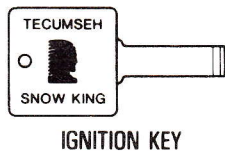
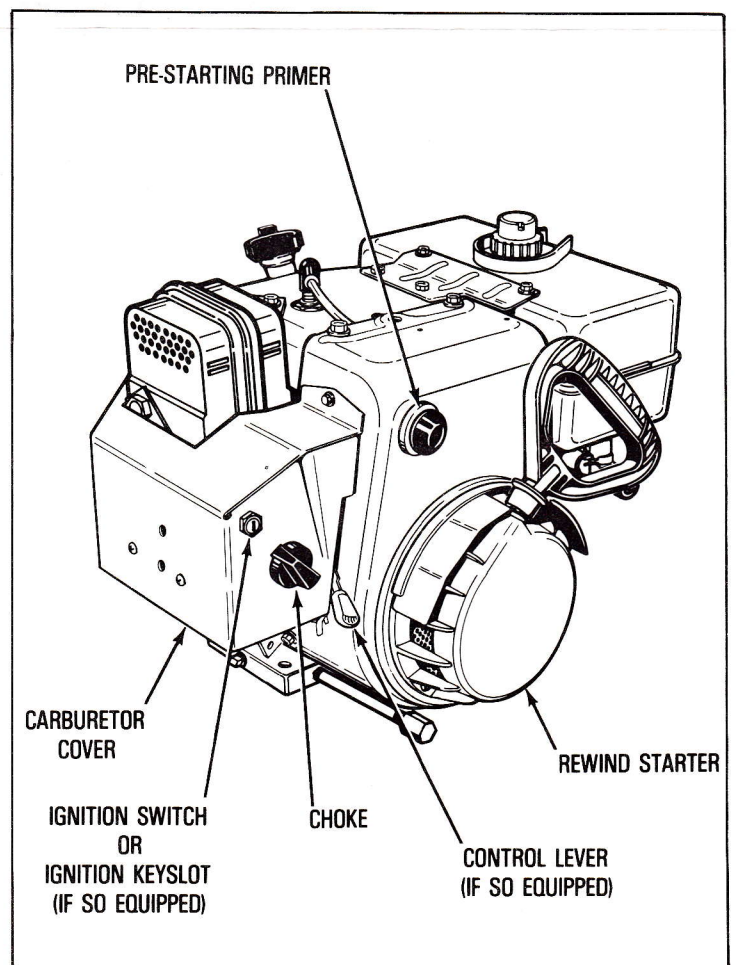

Figure 2
Figure 5
D. Be sure IGNITION KEY (if so equipped - see Figure 2) is inserted into IGNITION KEY SLOT in CARBURETOR COVER (see Figure 5). **DO NOT TURN IGNITION KEY.**
NOTE: If engine is used for anything except snow removal, the CARBURETOR COVER (see Figure 5) must be removed, and an approved air cleaner installed. See equipment manufacturer's instructions or your nearest Sears Service Center for details.
1. Move Remote Throttle Control on equipment (see equipment manufacturer's instructions) or CONTROL LEVER (see Figure 5) on engine to "Fast" or "Start" position.
2. Move CHOKE (see Figure 5) on engine to "Full".
3. Push PRE-STARTING PRIMER (see Figure 5) two (2) or three (3) times.
2. Move CHOKE (see Figure 5) on engine to "Off".
3. Push PRE-STARTING PRIMER (see Figure 5) once only.
- B. Move CONTROL LEVER or IGNITION SWITCH (if so equipped - see Figure 5) to STOP or OFF.
- C. Remove IGNITION KEY (if so equipped - see Figure 2) from CARBURETOR COVER (see Figure 5). DO NOT TURN IGNITION KEY.
A. TO HELP PREVENT POSSIBLE FREEZE-UP OF ENGINE CONTROLS DUE TO EXTREME SNOW BLOWING CONDITIONS, PROCEED AS FOLLOWS: (see Figure 5)
B. MOVE CHOKE (see Figure 5) ON ENGINE TO FULL AND LEAVE IN THIS POSITION.
C. MOVE REMOTE THROTTLE CONTROL ON EQUIPMENT (SEE EQUIPMENT MANUFACTURER'S INSTRUCTIONS) OR CONTROL LEVER (see Figure 5) ON ENGINE TO FAST OR START AND LEAVE IN THIS POSITION.
- ④ **LUBRICATE REWIND STARTER BEFORE EACH SNOW BLOWING SEASON** — PROCEED AS FOLLOWS:
- A. Remove REWIND STARTER (See Figures 5 & 6) from engine and brush away accumulation of dirt and debris from STARTER PAWL and PAWL POST.
- ⑤ **CHECK ENGINE AND EQUIPMENT FREQUENTLY FOR LOOSE NUTS, BOLTS, ATTACHMENTS, ETC., AND KEEP THESE ITEMS TIGHTENED.**